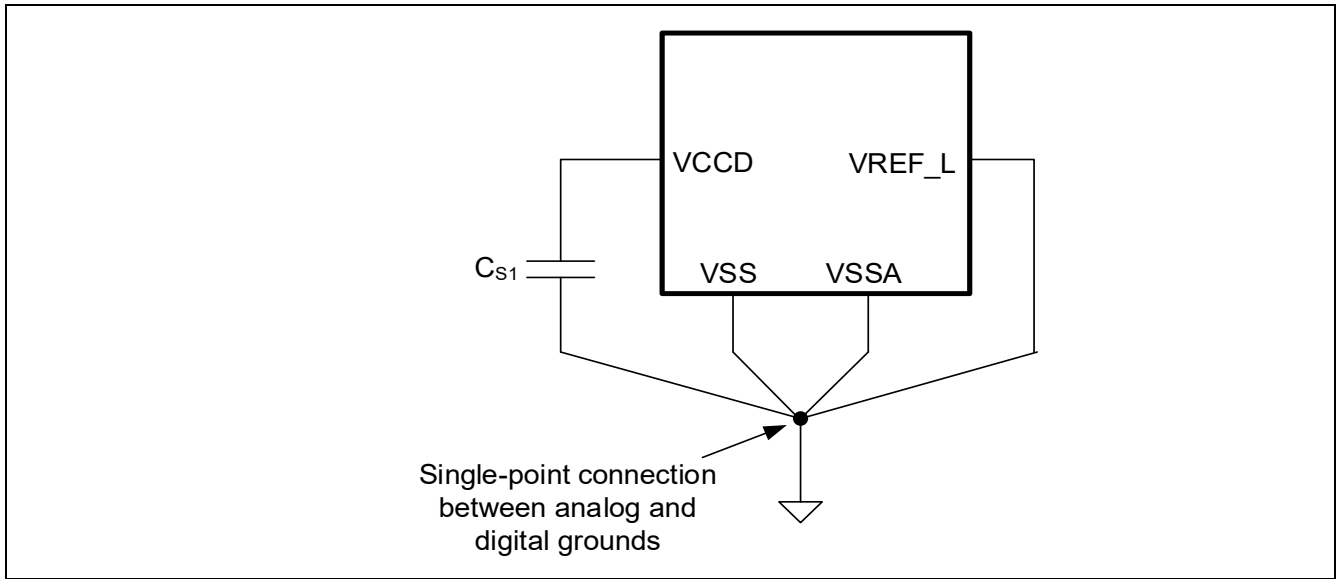

Figure 26-2 Smoothing capacitor
66. Only one smoothing capacitor, C_{S1} is required per chip (not per V_{VCCD} pin). The V_{VCCD} pins should be connected together to ensure a low-impedance connection (see the recommendation in Figure 26-2).